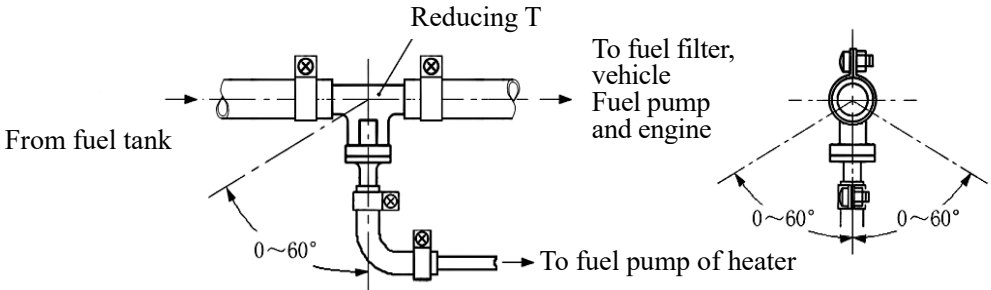

Fig.21
4.4.6.2 If fuel is sucked from the fuel pipe to the engine, the fuel pipe from the fuel tank to the fuel filter shall be disconnected and re-connected with the thicker pipes of the reducing T and the thinner pipe of the reducing T shall connect the fuel pump of the heater via oil pipe fitting and fuel pipe. Must ensure fuel extraction without any pressure and extract the fuel smoothly when the car is stopping. The angle for installation must in conformity with Fig. 21, or normal work of the heater will be affected.